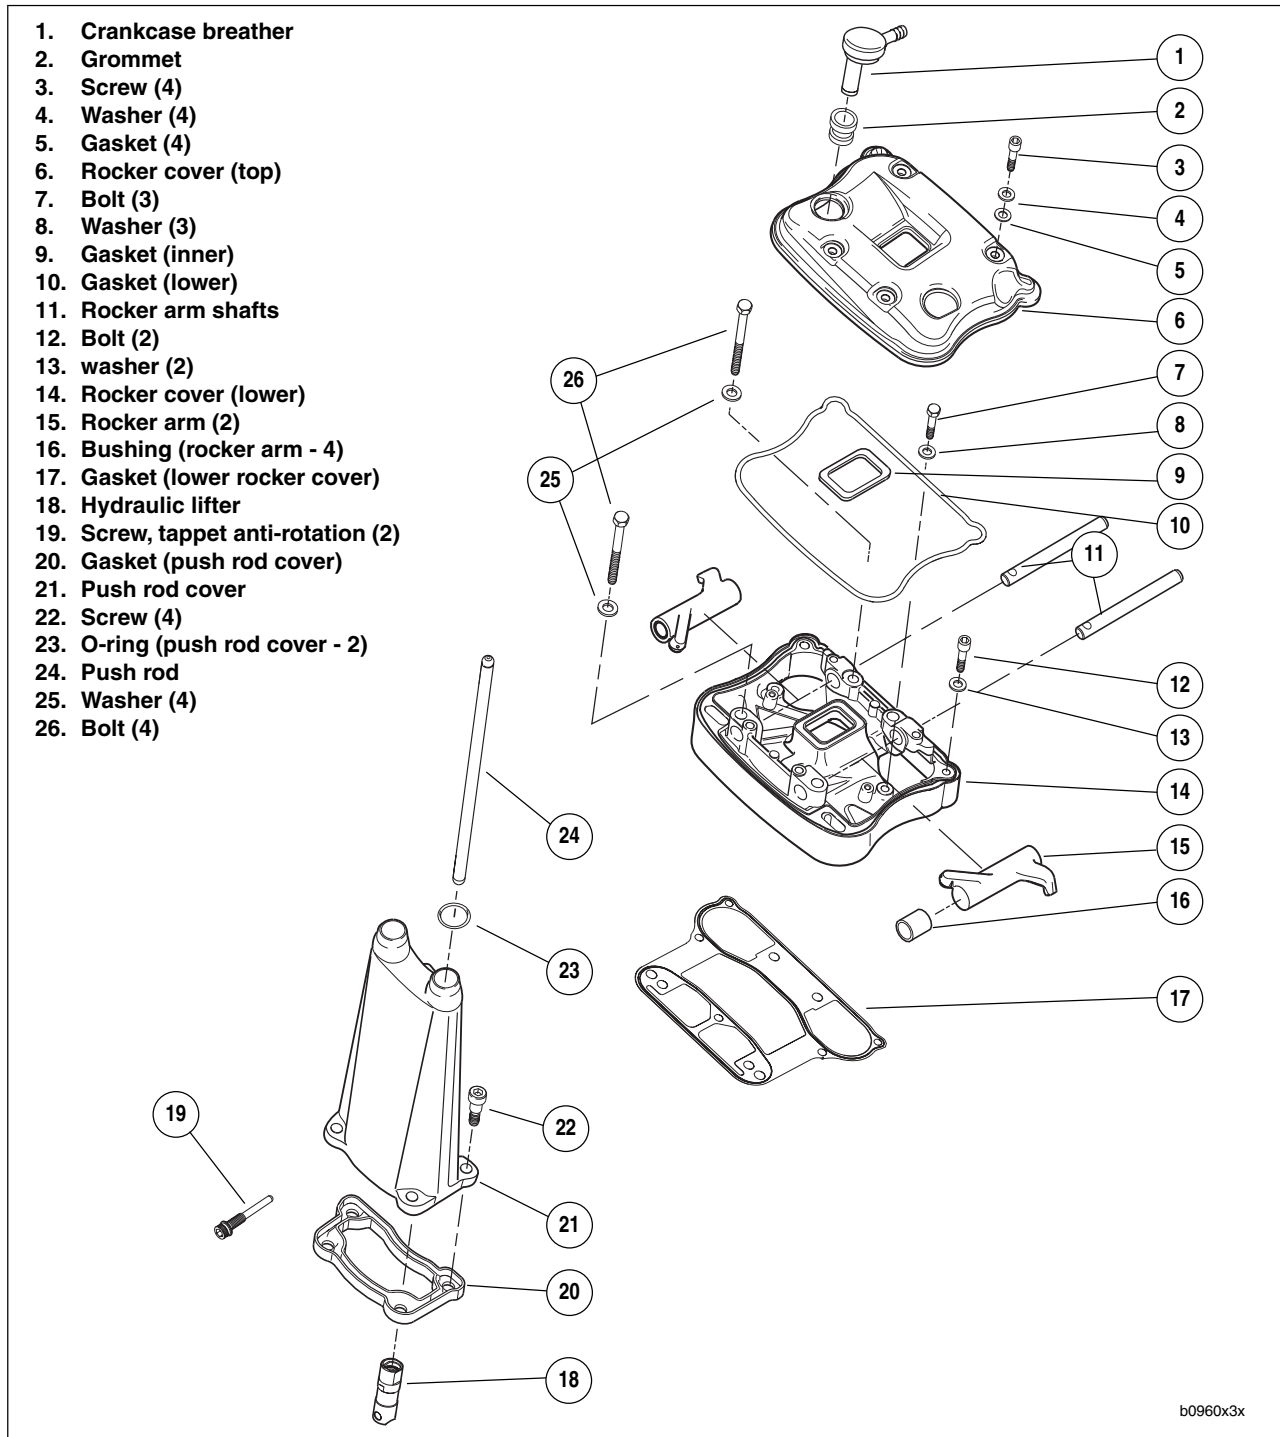
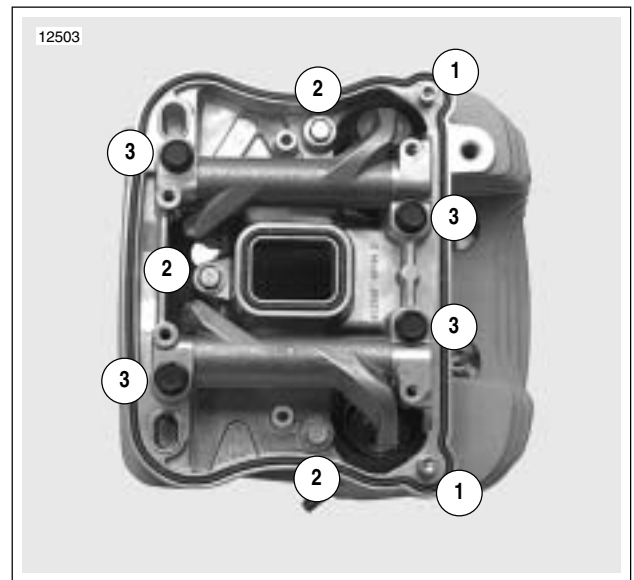

Figure 3-44. Rocker Arm and Push Rod Cover Assemblies
Figure 3-45. Lower Rocker Box Fasteners
2. See Figure 3-44. Remove screws with washers and fiber cover seals. Discard fiber seals.
6. See Figure 3-45. Remove hardware holding lower rocker cover to cylinder head in the following order.
- a. Remove two screws and washers (1).
- b. Remove three bolts and washers (2).
- c. Loosen the four rocker arm fasteners (3) in 1/4-1/2 turn increments using a cross pattern in order to relieve valve spring pressure on the lower rocker box.
7. See Figure 3-44. Remove lower rocker cover.
13. See Figure 3-44. Remove push rod cover, gasket and valve tappets.